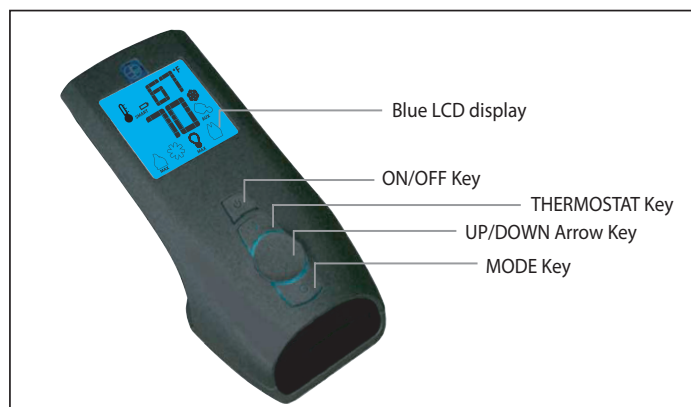
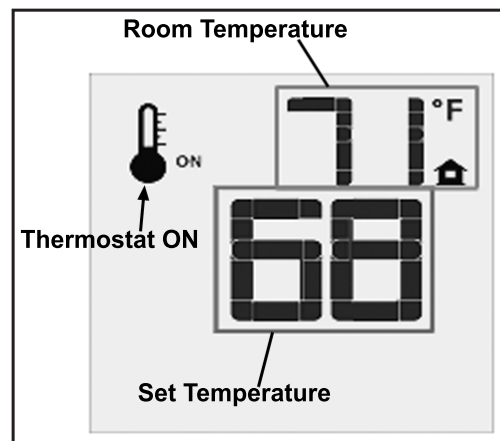
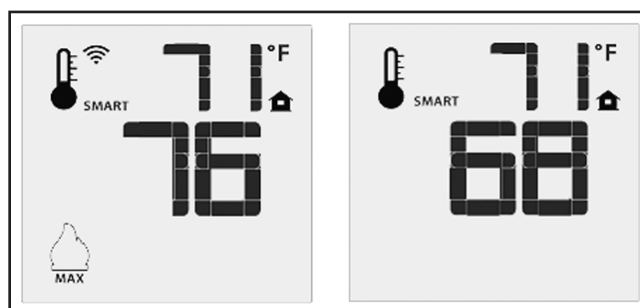

Figure 4: Proflame 2 Transmitter.
Figure 9: Remote Control Displays Set Temperature.
Figure 10: Remote Control's Smart Flame Function.
The Proflame 2 Transmitter is a black remote control with a blue backlit lcd display. It uses a streamline design with a simple button layout and informative lcd readout (Figure 5). The Transmitter is powered by three (3) AAA type batteries. A Mode Key is provided to Index between the features and a Thermostat Key is used to turn on/off or index through Thermostat functions (Figure 4 & 5)
Press the ON/OFF Key on the Transmitter. The Transmitter LCD display will only show the room temperature and Icon (see Figure 9). A single “beep” from the IFC confirms reception of the command and both the pilot light (if the unit is not set to continuous pilot) and main burner will turn off.
The Remote Control can operate as a room thermostat. The thermostat can be set to a desired temperature to control the comfort level in a room. To activate this function, press the Thermostat Key (see Figure 4). The LCD display on the Transmitter will change to show that the room thermostat is “ON” and the set temperature is now displayed (see Figure 9). To adjust the set temperature, press the Up or Down Arrow Keys until the desired set temperature is displayed on the LCD screen of the Transmitter.
The Smart Thermostat function adjusts the flame height in accordance to the difference between the set point temperature and the actual room temperatures. As the room temperature gets closer to the set point the Smart Function will modulate the flame down. To activate this function, press the Thermostat Key (Figure 4) until the word “SMART” appears to the right of the temperature bulb graphic (Figure 10). To adjust the set temperature, press the Up or Down Arrow Keys until the desired set temperature is displayed on the LCD screen of the Transmitter.